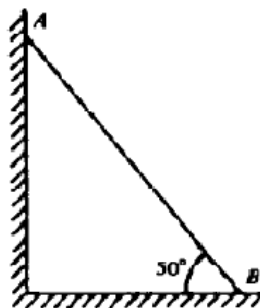

Figure 1
b) The 4.2 m long ladder AB weights 200 N. It rests against a vertical wall and on horizontal floor as shown in Figure 1. What must be the coefficient of friction  $\mu$  for equilibrium?